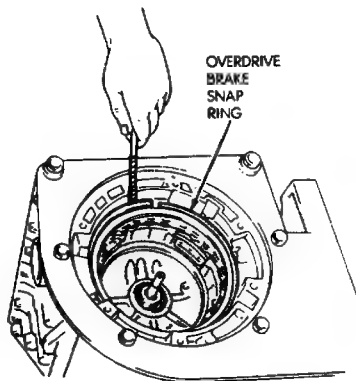

**Fig. 19 Remove Bearing, Race And Planetary Ring Gear**
(27) Remove thrust bearing, race and overdrive planetary ring gear (Fig. 19).